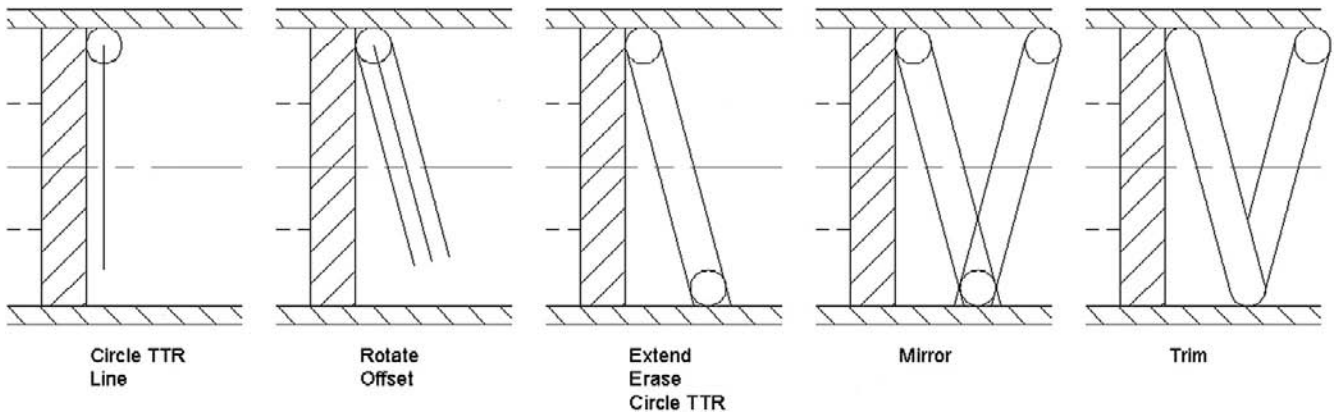

FIGURE 8.13
Step 11. Now, how do you do the spring? Well, this is where the Circle/Ttr comes in. Draw one circle at the upper left of the area where it is supposed to go with the correct diameter (see the main diagram). Then, one way of proceeding is to draw a straight arbitrary line down from the center of that circle, rotate the line 15° about that center point, then offset 0.1 in each direction, erase the original line, extend the two new ones to the bottom (if necessary), and repeat the process, as seen in Figure 8.13.